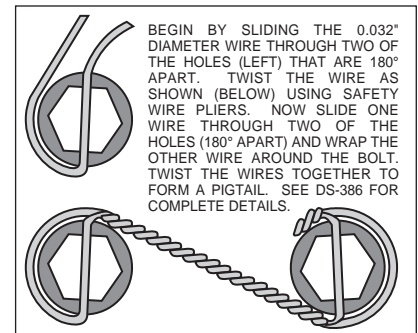

Figure 4. Safety Wire Diagram
- Attach rotor adapter (7) to rotor (8) using six bolts (9). Using an alternating sequence, apply red *Loctite*® 271 to the threads and torque bolts (9) to 25 ft-lb. For an added measure of security, the bolts may be safety wired using standard 0.032 inch diameter stainless steel safety wire as shown in Figure 4. Please refer to Wilwood's data sheet DS-386 (available at www.wilwood.com/Pdf/DataSheets/ds386.pdf) for complete safety wire installation instructions. **NOTE:** The flat side of the rotor (8) lugs face toward the rotor adapter (7) with the dished side of the rotor adapter (7) facing away from the rotor (8).